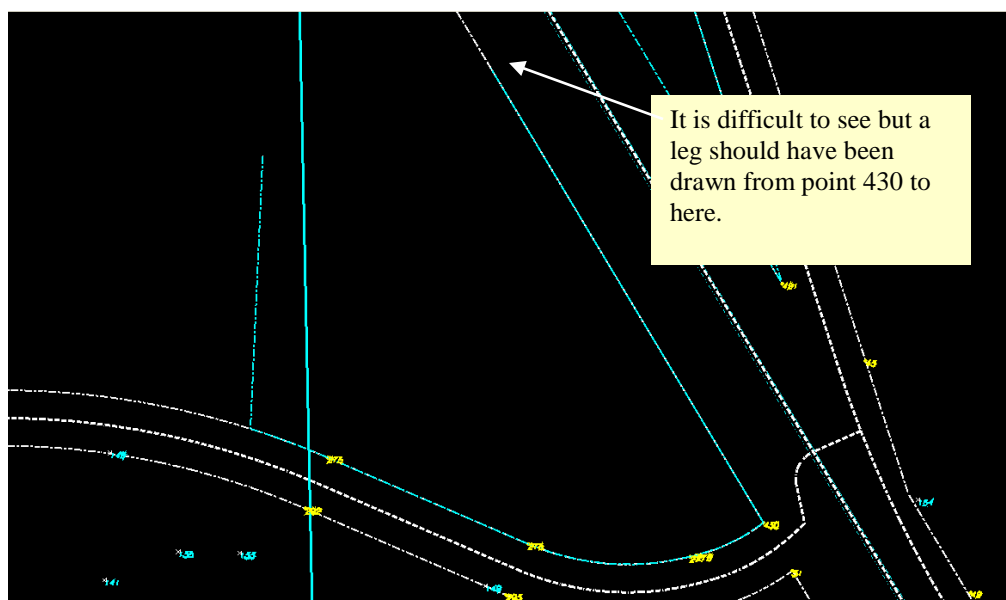

Figure L15-10 MicroStation Window
- Verify your view matches that shown in *Figure L15-10* and that the leg was drawn correctly.